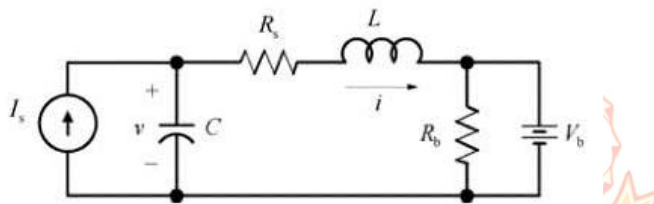

Fig.2
1. Develop a state space model for the following circuit shown in Fig.2
2. For the circuit shown in Fig.2, $C=10\mu\text{f}$, $L=5\text{mH}$, $I_s=10\text{A}$ and $R_b=100\Omega$ with proper time interval, simulate and plot the capacitor voltage.